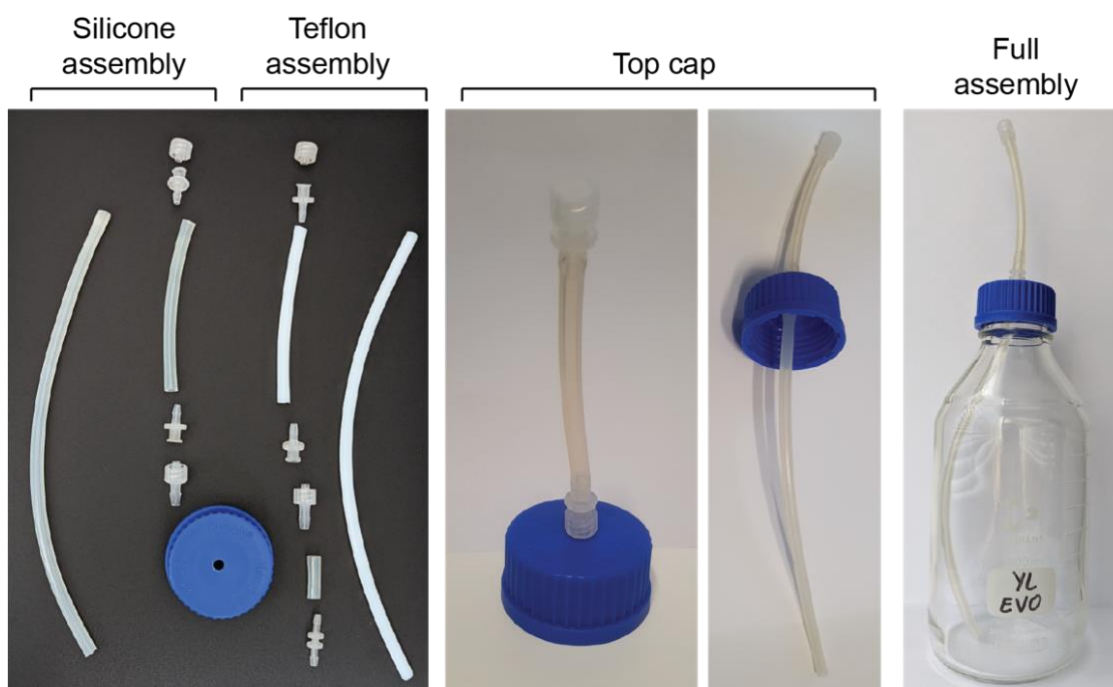

Figure 1. Assembly of the media bottles.
5. Close one end of the part from step 4 using a luer lock cap and attach the assembled part to the female luer lock on the bottle cap (Fig. 1).